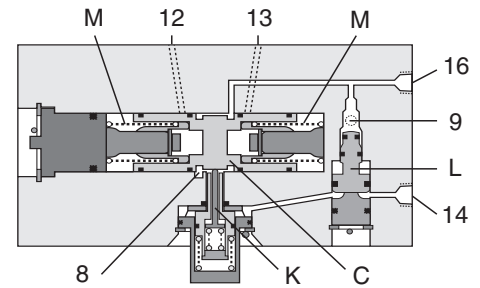

Figure 4 — Cross Section of L-G Monitor
Lockout Signal Port. Port 16 (Figure 4) can be connected to a pressure indicator to show when a lockout has occurred. During normal operation the pressure at port 16 is equal to line pressure, but during a lockout pressure drops to zero. This drop is due to the pilot air passage 9 being vented to atmosphere as described above. If port 16 is not used it must be plugged.
After the cause of a lockout has been corrected the spool in the monitor must be reset in its normal center position in order for the valve to function. This is done by applying an air pressure signal of at least 60 psig (4 bar) to the pneumatic reset port 14 (Figure 4). Pressurizing port 14 produces two results: (1) lockout pin K is lifted out of the lockout groove so that the centering springs M can return the spool to the center position, and (2) differential spool L is shifted so that it blocks pilot air passage 9, thereby cutting off pilot air supply during the resetting process. This keeps the valve inoperative while resetting air pressure is applied so that any attempt to circumvent the functions of the L-G monitor is inhibited.